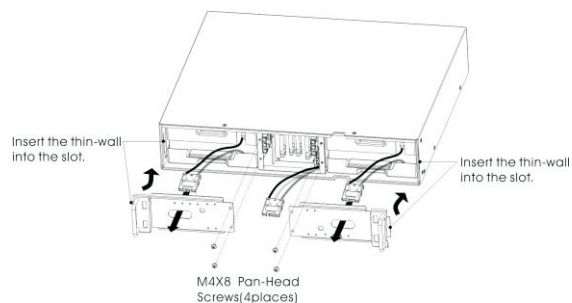

Fig.6 Installation for battery pack baffle
5. Hold the middle of the new battery pack, insert it. Make sure that the whole battery pack is in position. (see Fig.6)